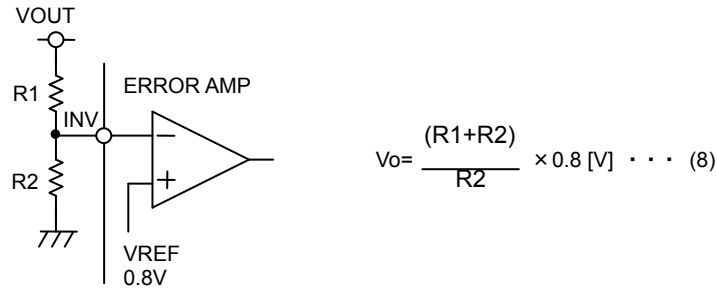

Fig. 32 Setting of feedback resistance
(4) Output voltage setting
The internal reference voltage of the ERROR AMP is 0.8 V. Output voltage should be obtained by referring to Equation (8) of Fig.32.